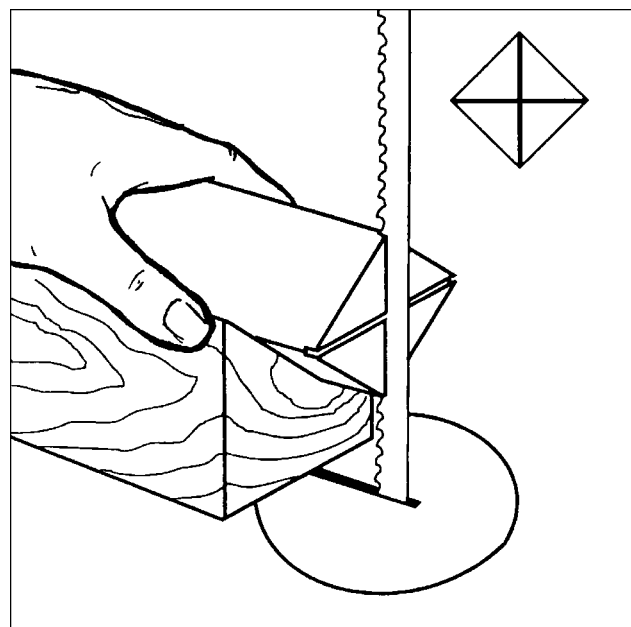

Fig. 12
1. With a ruler locate and mark the center on each end by going corner to corner, see Figure 12. Accuracy is not critical on full rounds but extremely important on stock where square sections are to remain. Put a dimple in each end of the stock with an awl or nail.
2. Extremely hard woods may require kerfs cut into the spur drive end of stock, see Figure 12. You may need to drive the spur center into the stock with a wood mallet. **Note:** Never drive stock onto spur while it is mounted in the lathe spindle.